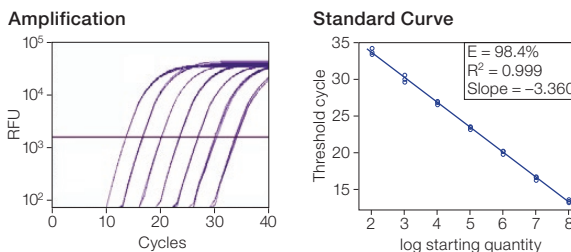

Fig. 3. Sample data for a standard curve on a CFX96 real-time PCR detection system. RFU, relative fluorescence units.
2. With the fluorescence data in log scale view, adjust the threshold such that it is in the linear range of the amplification traces and the reaction efficiency is relatively insensitive to the exact threshold setting (Figure 3).